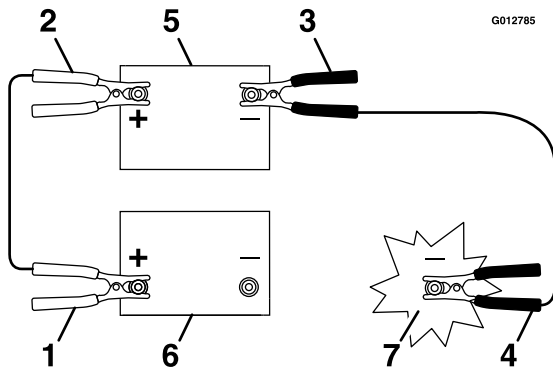

Figure 19
3. Connect the positive (+) cable to the positive (+) terminal of the discharged battery that is wired to the starter or solenoid as shown in Figure 19.